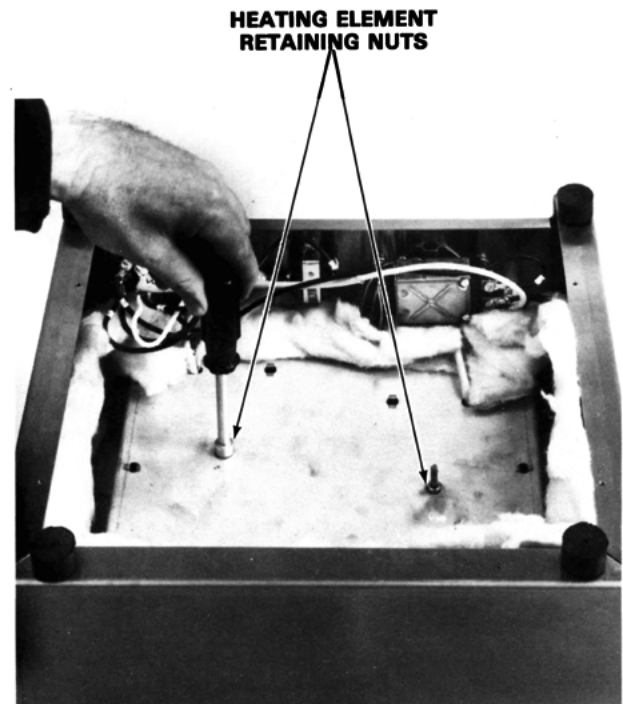

Figure 3
4. Remove the 2 heating element retaining nuts holding the pan. (See Figure 3)